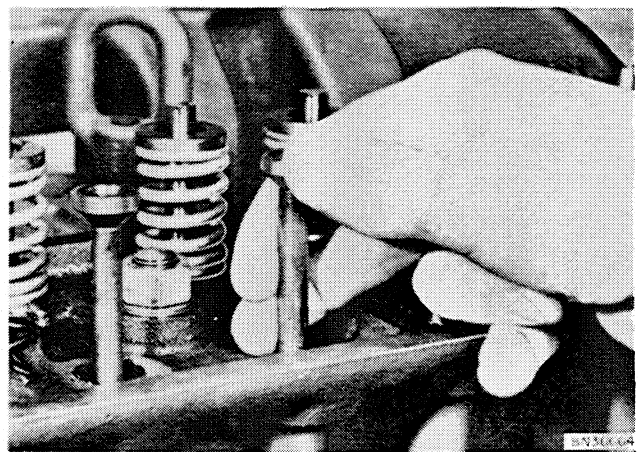

Figure 13 - Snapping Push Rod Out of Ball Socket of Tappet
3. Remove rocker arm shaft assembly and push rods. Grip the push rods and snap them sideways out of the tappet sockets as shown in Figure 13. This serves to break the hydraulic connection and permits lifting the push rods out and leaving the tappets in place. If tappets are lifted out of the guides, they will have to be reassembled through the opening in the block if only the cylinder head is removed for servicing.